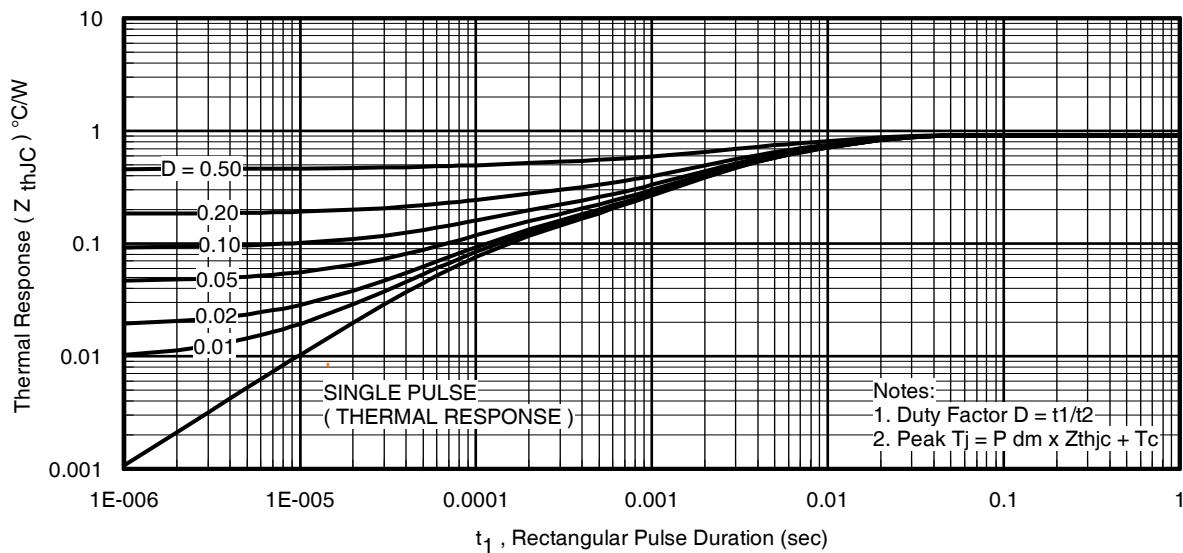

Fig 13. Maximum Effective Transient Thermal Impedance, Junction-to-Case
- $Z_{thJC}(D, t_{av})$ = Transient thermal resistance, see Figures 13)